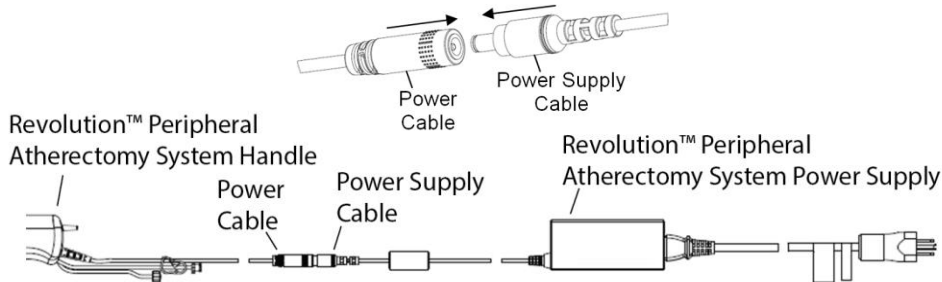
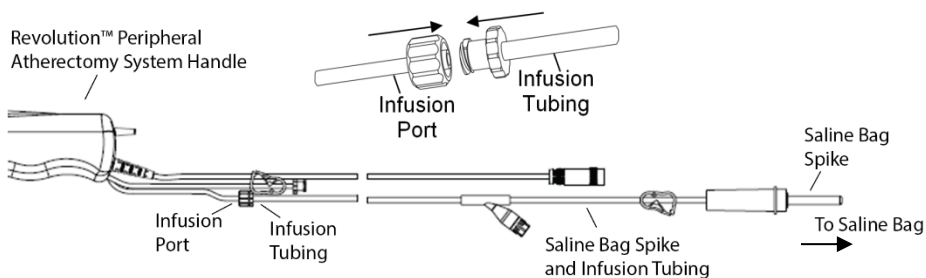

Figure 3: Connect to power supply
Figure 4: Connect infusion tubing
1. **Priming the System:** Remove the Revolution™ Peripheral Atherectomy System from the packaging and inspect for kinks or damage to the catheter. **Warning: Do not use the device if the device or catheter is damaged.** Attach the power cable from the device to the power supply cable, as shown in Figure 3. Using sterile technique, attach the saline bag spike and infusion tubing to a 1,000 mL bag of normal saline and the infusion port of the device, as shown in Figure 4. The saline should be pressurized with an IV pressure bag to ensure steady infusion. The recommended pressure is 20 kPA – 26.7 kPa (150 mmHg – 200 mmHg). Allow the system to flush until saline drips out of the distal tip of the catheter. **Precaution: Always operate the Revolution™ Peripheral Atherectomy System with saline infusion. Flowing saline aids in cooling and lubricating the system. Operation without saline flow may result in permanent damage.**